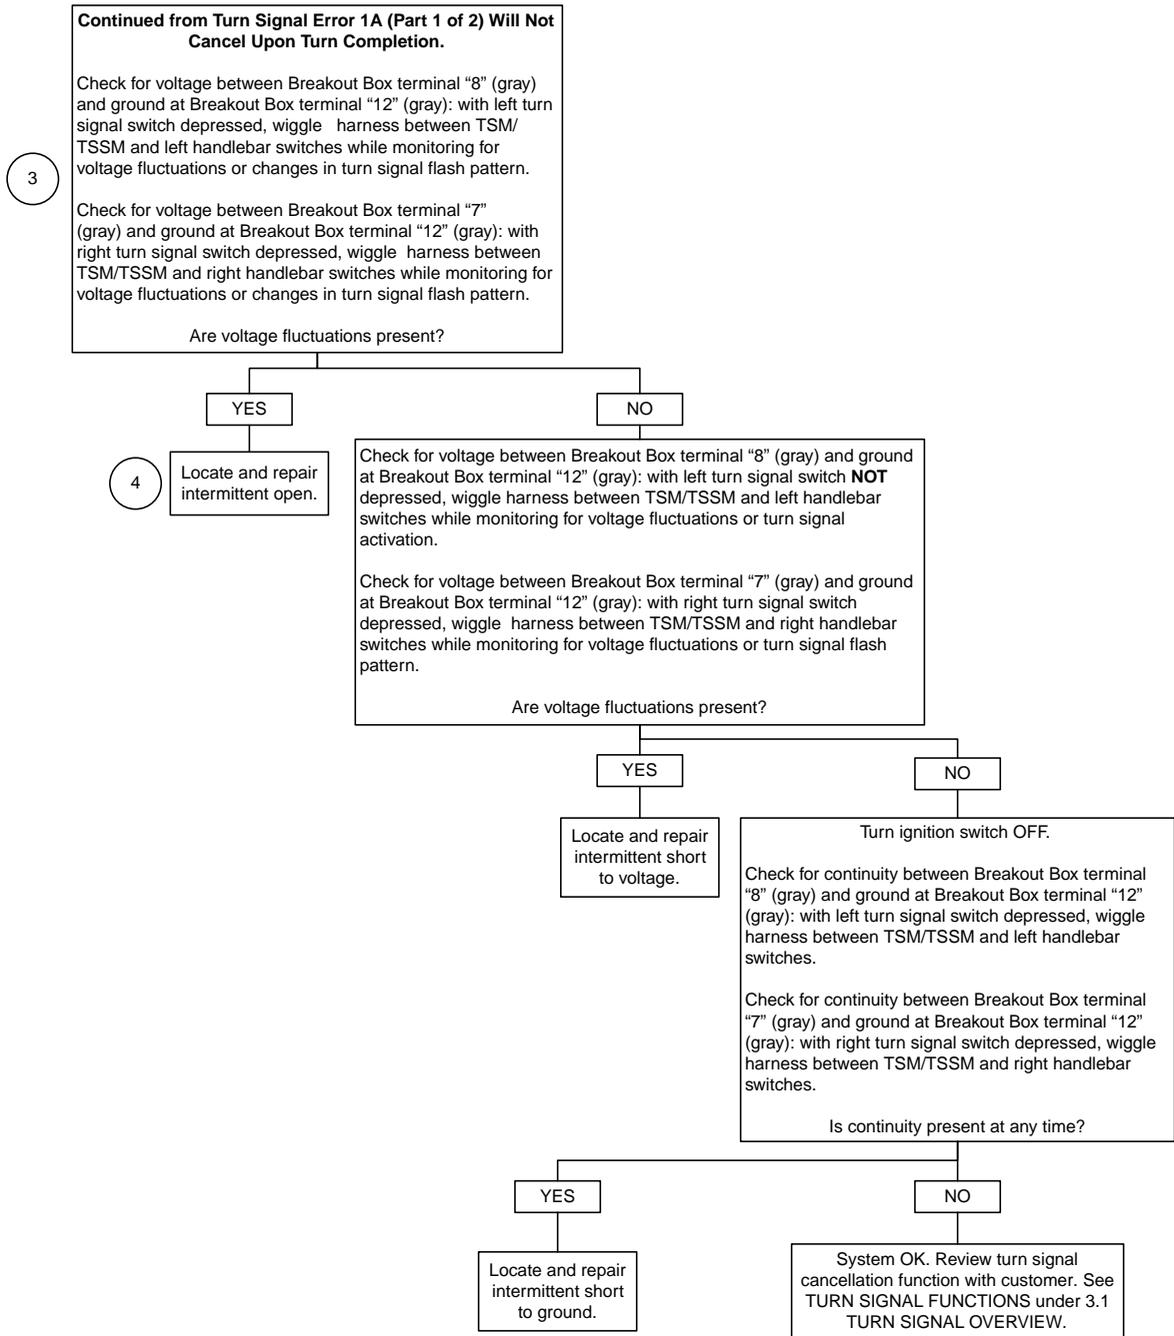

Figure E-20. Tilting TSM/TSSM
- a. See Figure E-20. Position TSM/TSSM in same orientation it is mounted on vehicle. Turn Ignition Switch on. Turn 4-way flashers on by depressing both left and right turn signal switches simultaneously. Turn Ignition Switch off. The 4-way flashers should continue to flash.